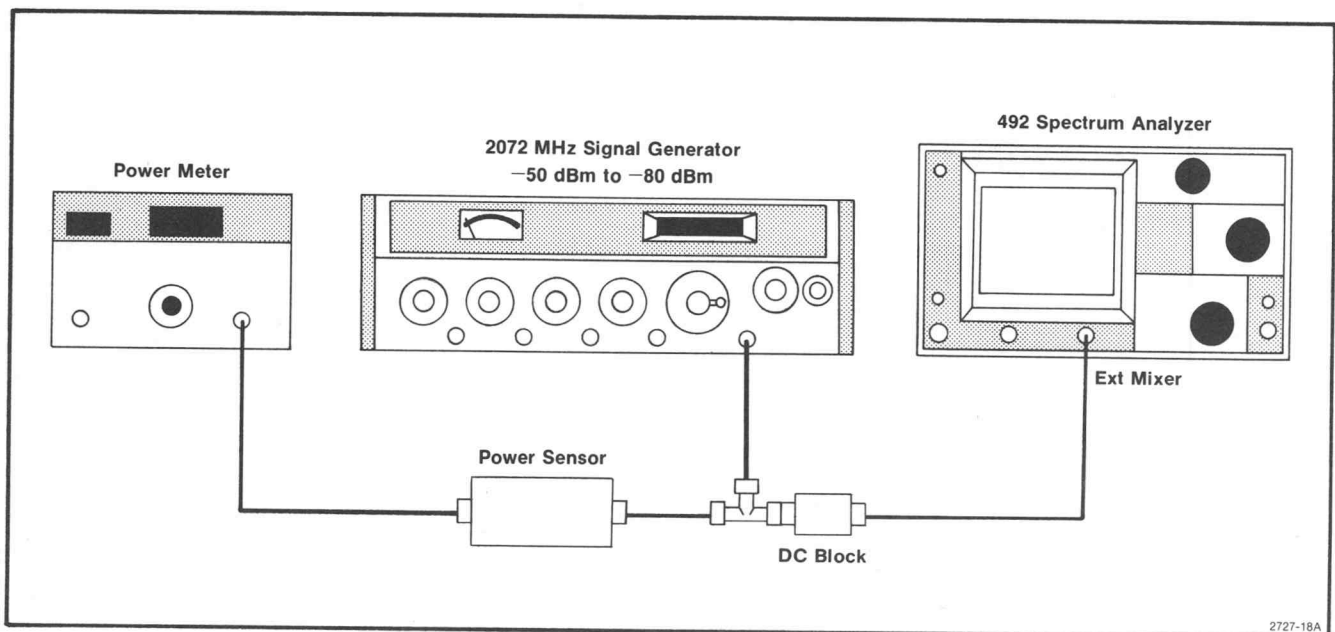

Fig. 3-50. Test equipment setup for calibrating band leveling of the external mixer bands.
a. Test equipment setup is shown in Fig. 3-50. Apply 2072 MHz at -58 dBm, through a dc-blocking capacitor to the EXT MIXER input. Monitor the input with a power meter to set the input level. Set the front panel controls as follows: